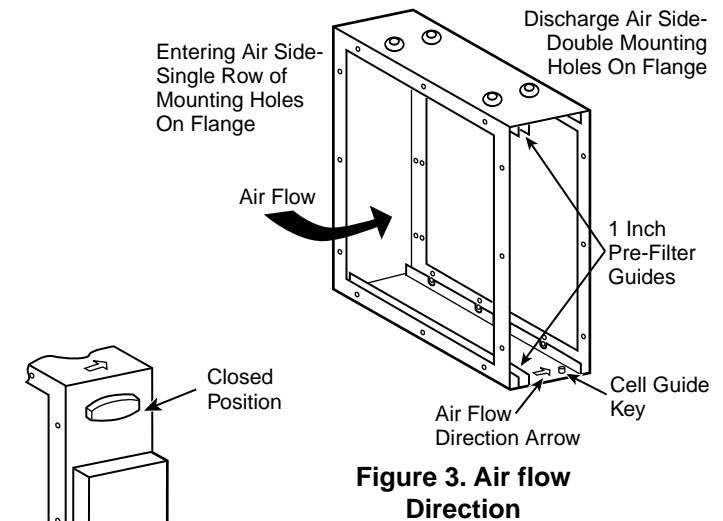

Figure 4. Power Door
1. Rotate the two T-Handles on the power door inward to remove the power door from the cabinet (see Fig. 4) and set it aside. Remove the collecting cells and pre-filter, and set aside until the cabinet is installed.